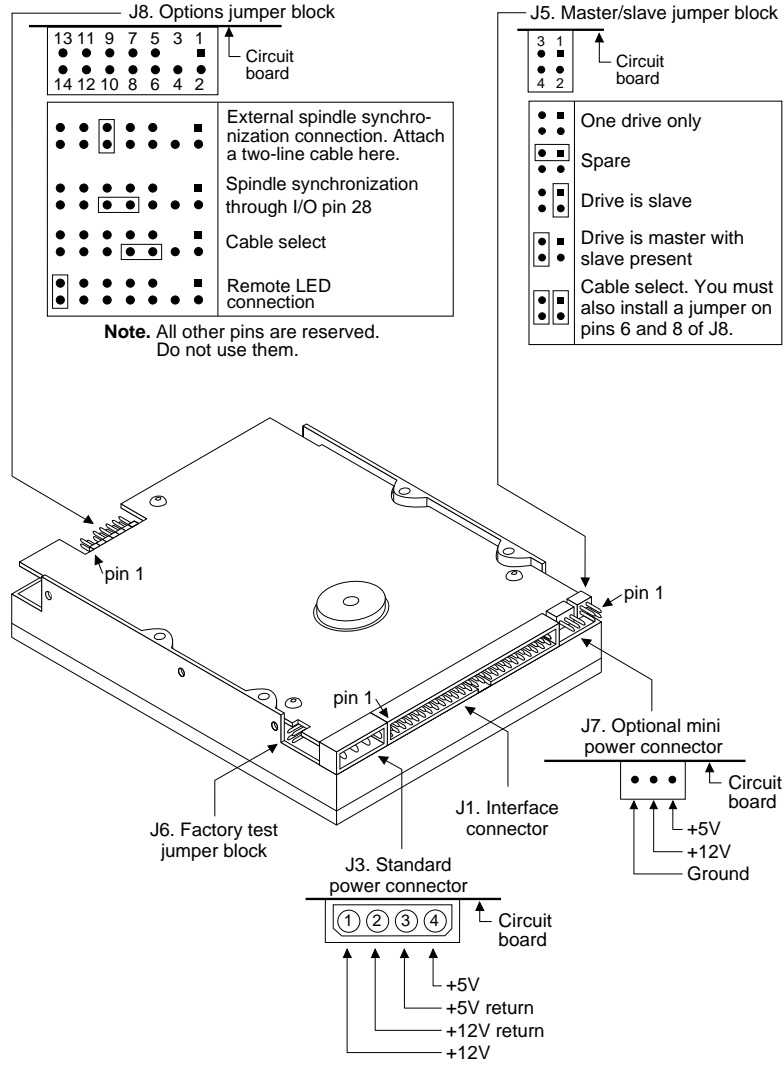

Figure 3. Configuration jumpers
You can connect two drives to a daisy-chain cable if both drives meet the same interface specifications. In a dual-drive configuration, one drive is designated as the master (drive 0) and the other as the slave (drive 1). See Figure 3 on page 16 for jumper settings.
- Install jumpers on pins 1 and 2 and pins 3 and 4 of the master/slave jumper block and pins 6 and 8 of the options jumper block. These jumper blocks are both shown in Figure 3 on page 16.